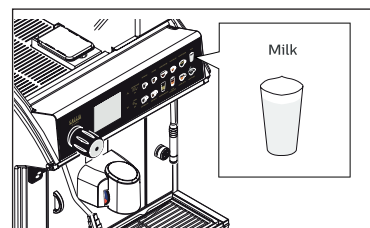

Fig. 1
- 1 Immerse the milk tube into a container with water and press on the Milk button. (Fig. 1)